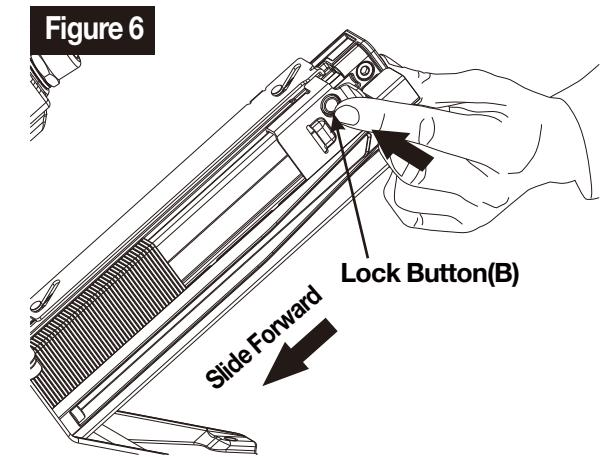

Figure 6
4. Press the lock button(B), allow the pusher (A) to slide forward and engage the staples. The pusher (A) will stop when it rests against the end of staples. (See figure 6 & 7)